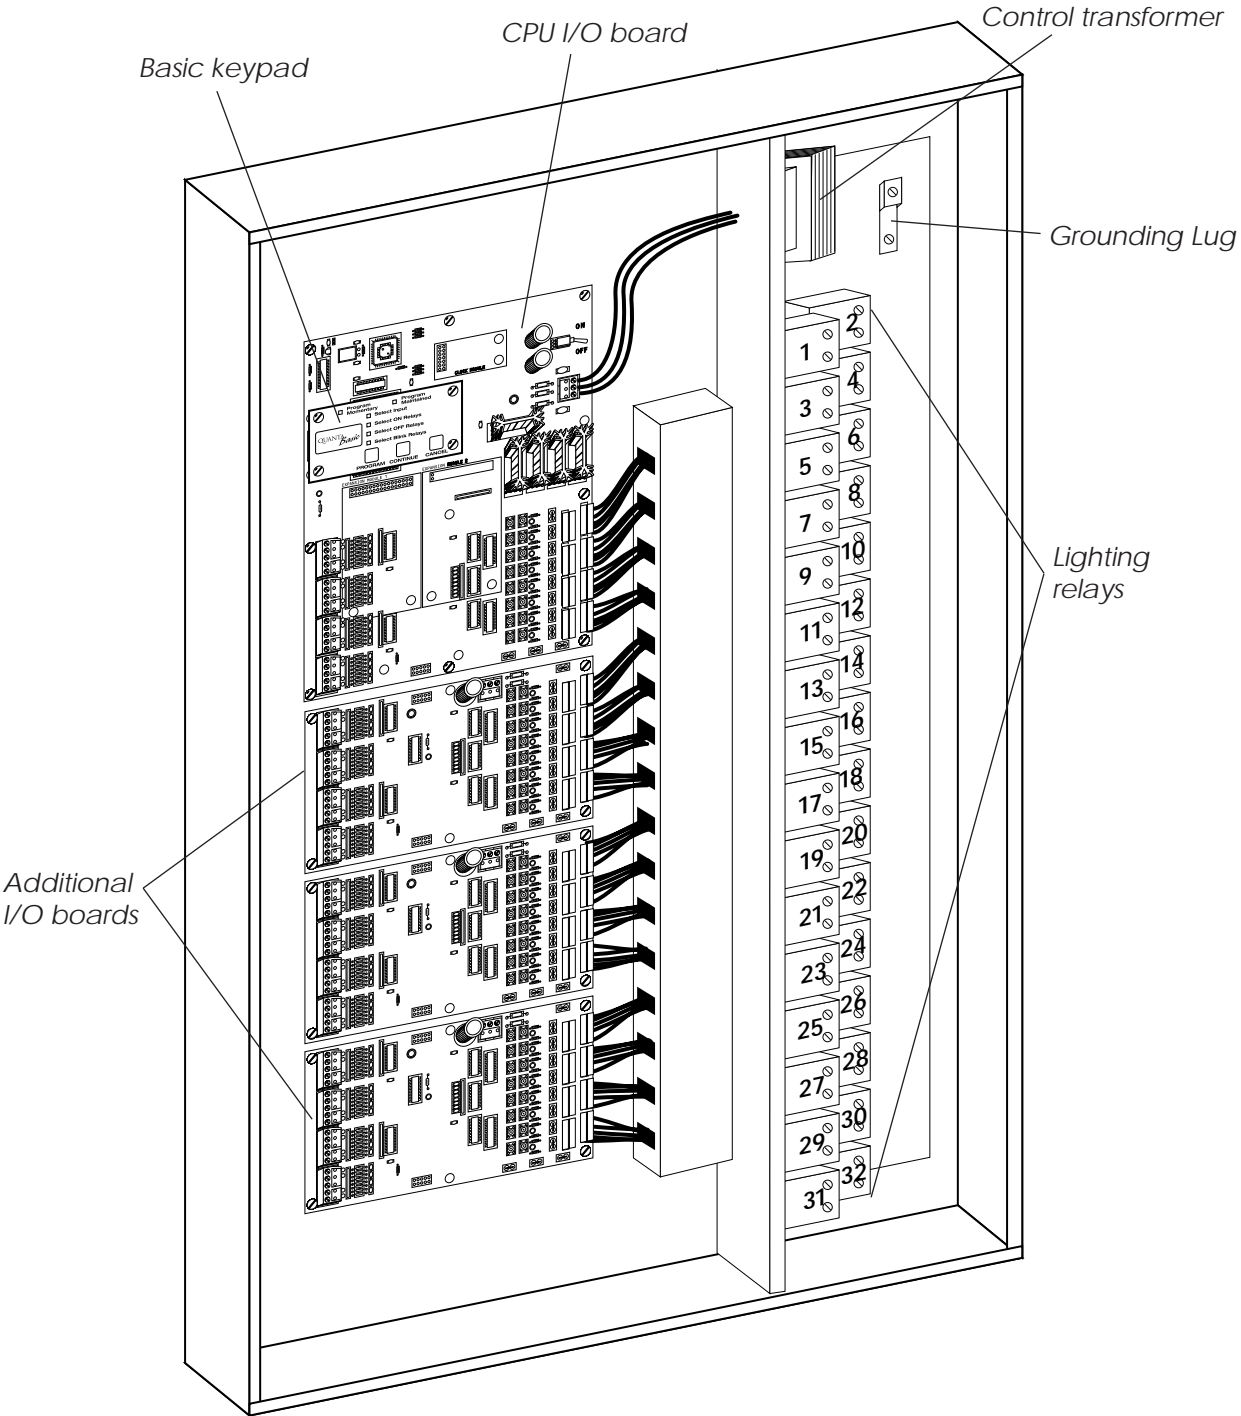

Figure 1.3 – QUANTA Basic 32
1.1.4 Additional I/O Board(s) – Additional I/O boards composed of 8 inputs and 8 outputs can be added to the appropriate size enclosure to expand the controller capacity up to 48 switch inputs and 48 relay outputs. (See Figure 1.3, which illustrates a QUANTA Basic 32.)